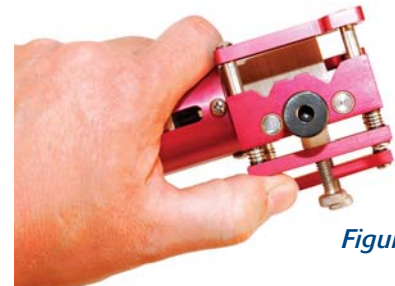
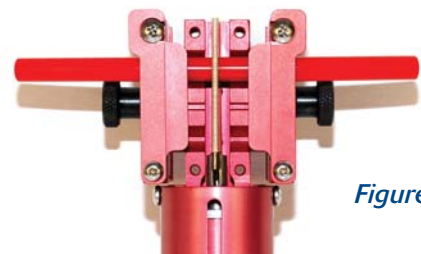

Figure 1
Figure 2
5. While compressing the belt clamp springs (see Figure 1), place both belt ends into belt clamp and tighten belt clamp lock screws. **Note: Make sure there are no twists in the belt.** Make sure the belt ends are flush against the heater blade (see Figure 2).